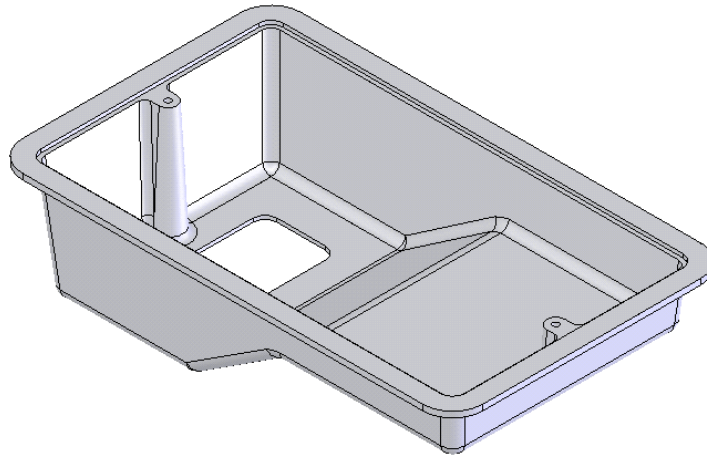

Figure 17-35 Final model of the Plastic Cover
- Create the new SolidWorks document and create the model of the Plastic Cover, refer to Figure 17-35.
- Save the model. Figure 17-35 shows the final model created using the standard modeling tools.